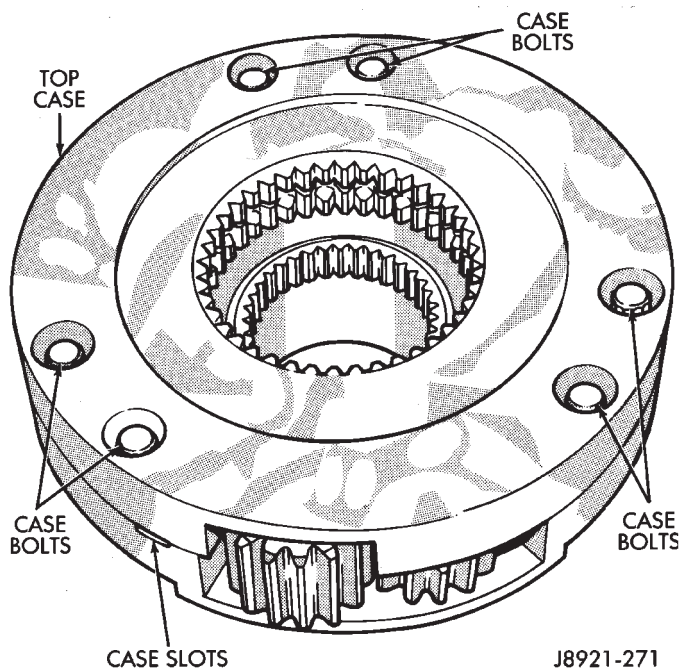

Fig. 44 Separating Differential Case Halves
- (1) Mark differential case halves for reference.
- (2) Remove differential case bolts.
- (3) Invert differential on workbench.
- (4) Separate top case from bottom case. Use slots in case halves to pry them apart (Fig. 44).